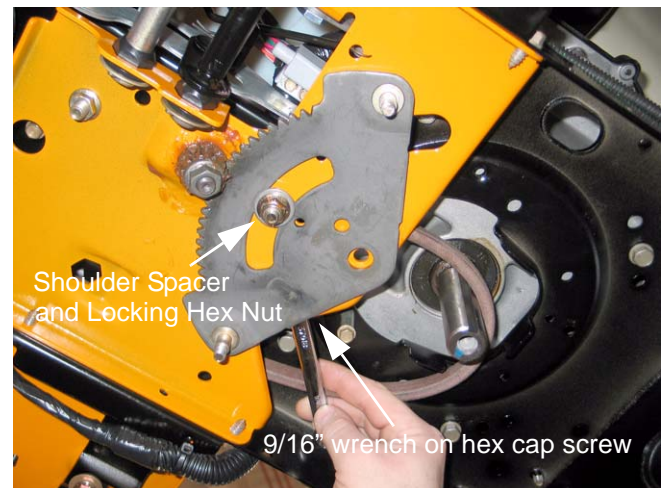

Figure 35.10
- 35.10. Using a 9/16" wrench and socket, remove the hex cap screw, shoulder spacer and hex nut in the middle of the steering gear. Remove the steering gear. See Figure 35.10.